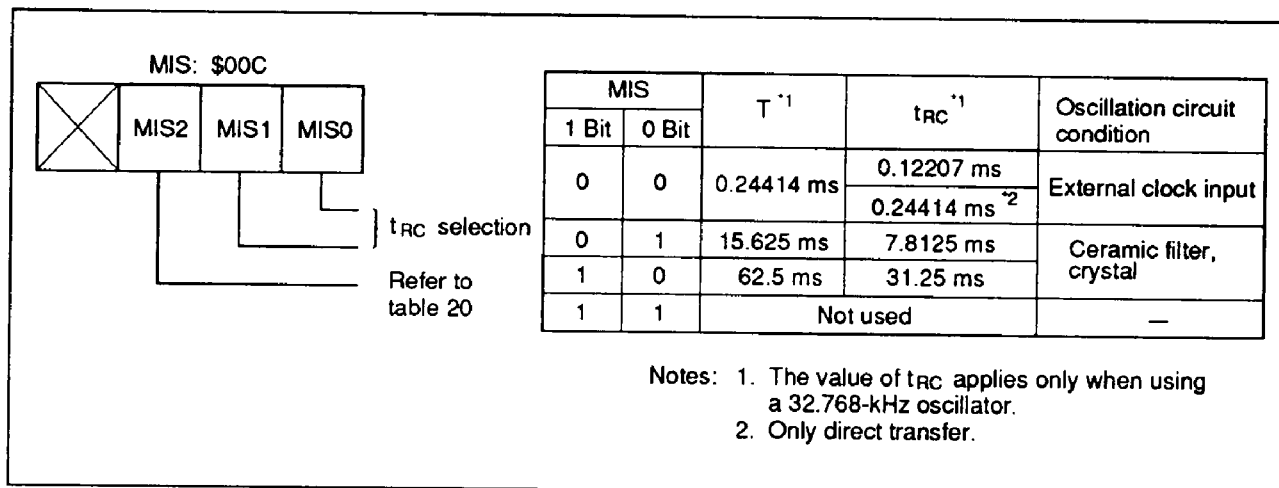

Figure 30 Miscellaneous Register
Interrupt Frame: In watch and subactive modes, ϕ_{CLK} is supplied for timer A and the $\overline{INT}_0$ circuit. Prescaler W and timer A operate as time bases to generate interrupt frame timing. Three interrupt frame cycles (T) can be selected by the settings of the miscellaneous register, as shown in figure 30.